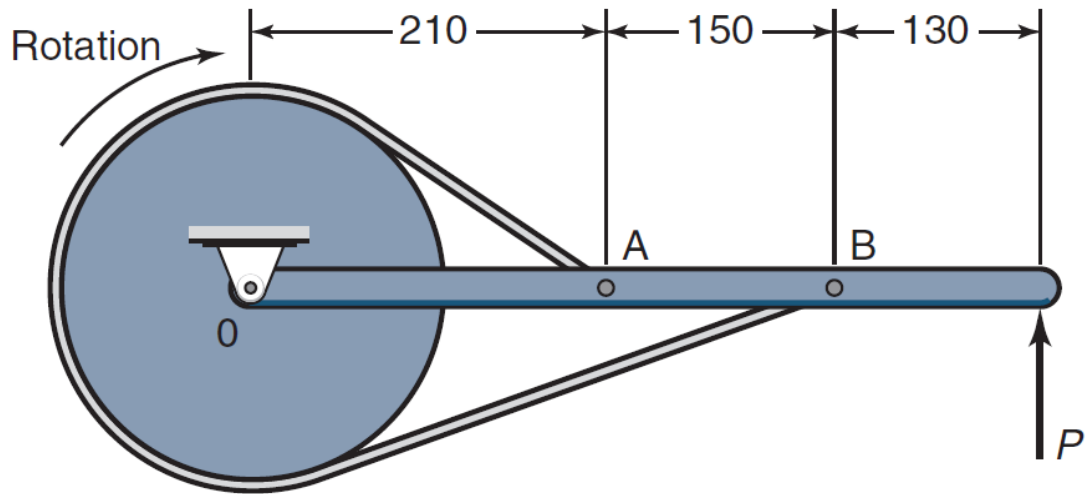

Figure 6
8. For the band brake shown in Figure 6, the following conditions are given: $d = 350$ mm, $p_{\max} = 1.2$ MPa, $\mu = 0.25$, and $b = 50$ mm. All dimensions are in millimeters. Determine the braking torque, actuating force and forces acting at hinge 0.